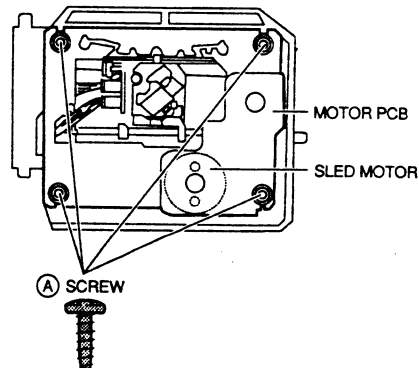

Fig. 3-3
- 2) Remove the four (A) screws on the TRAVERSE MECHA as shown in Fig. 3-3.